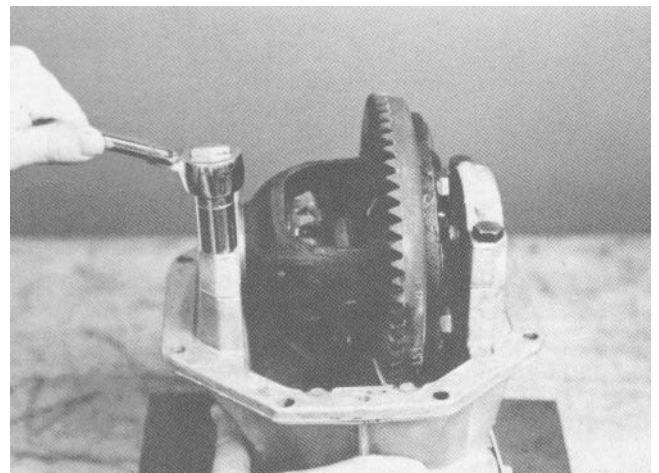

Figure 23
3. Remove the four bearing cap screws and remove the caps. Place the caps in a safe place to avoid damaging their machined surfaces (Fig. 23).